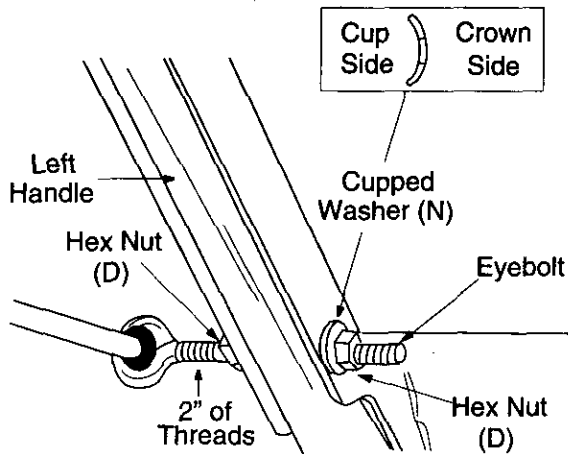

Figure 14
3. Thread one hex nut (D) onto the eyebolt on the chute directional control assembly until there is at least two inches of threads showing between the nut and the head of the eyebolt. See Figure 14.
4. Place the eyebolt into the hole located half way up the left handle. Secure with cupped washer (N) (cupped side against the handle, see inset, Figure 14) and hex nut (D).